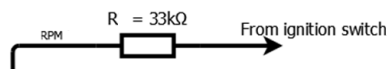

Figure 2: eBox - Direct P-lead sensing
- Direct P-lead sensing from magnetos (Lycoming, Continental) – Figure 2
Direct P-lead sensing from magnetos is the least preferable way of measuring RPM (wiring shown on Figure 2). Because of high voltage spikes on magnetos, user must include a series resistor that has a value of  $33\text{k}\Omega$ . If the readings are unstable, the user must increase the value of the resistor ( $100\text{k}\Omega$  or more) until the issue is resolved. Be sure to mount the resistors near the ignition switch, since magnetos are high voltage spikes that cause a lot of EM interference. This is the least preferable way of measuring RPM, because it does not isolate RPMFlapBox from the damaging high voltage spikes generated on the magnetos.